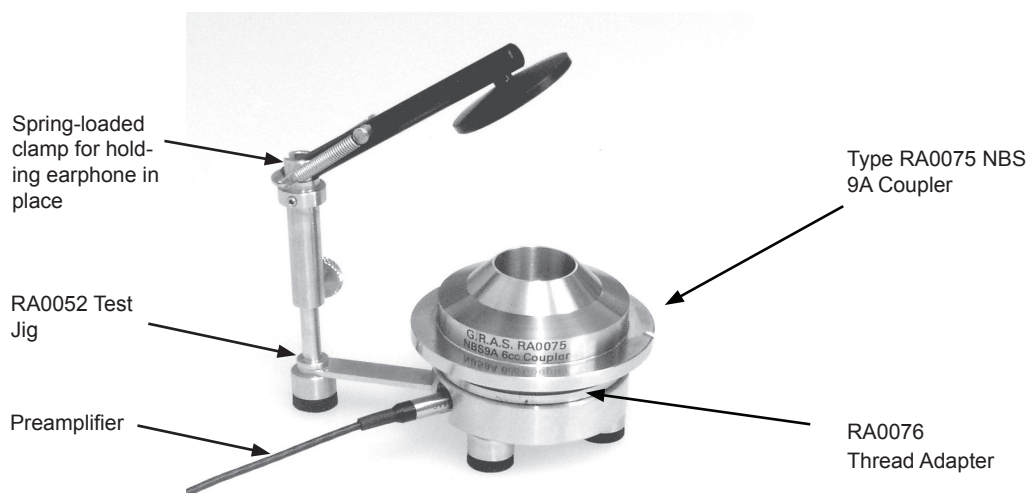
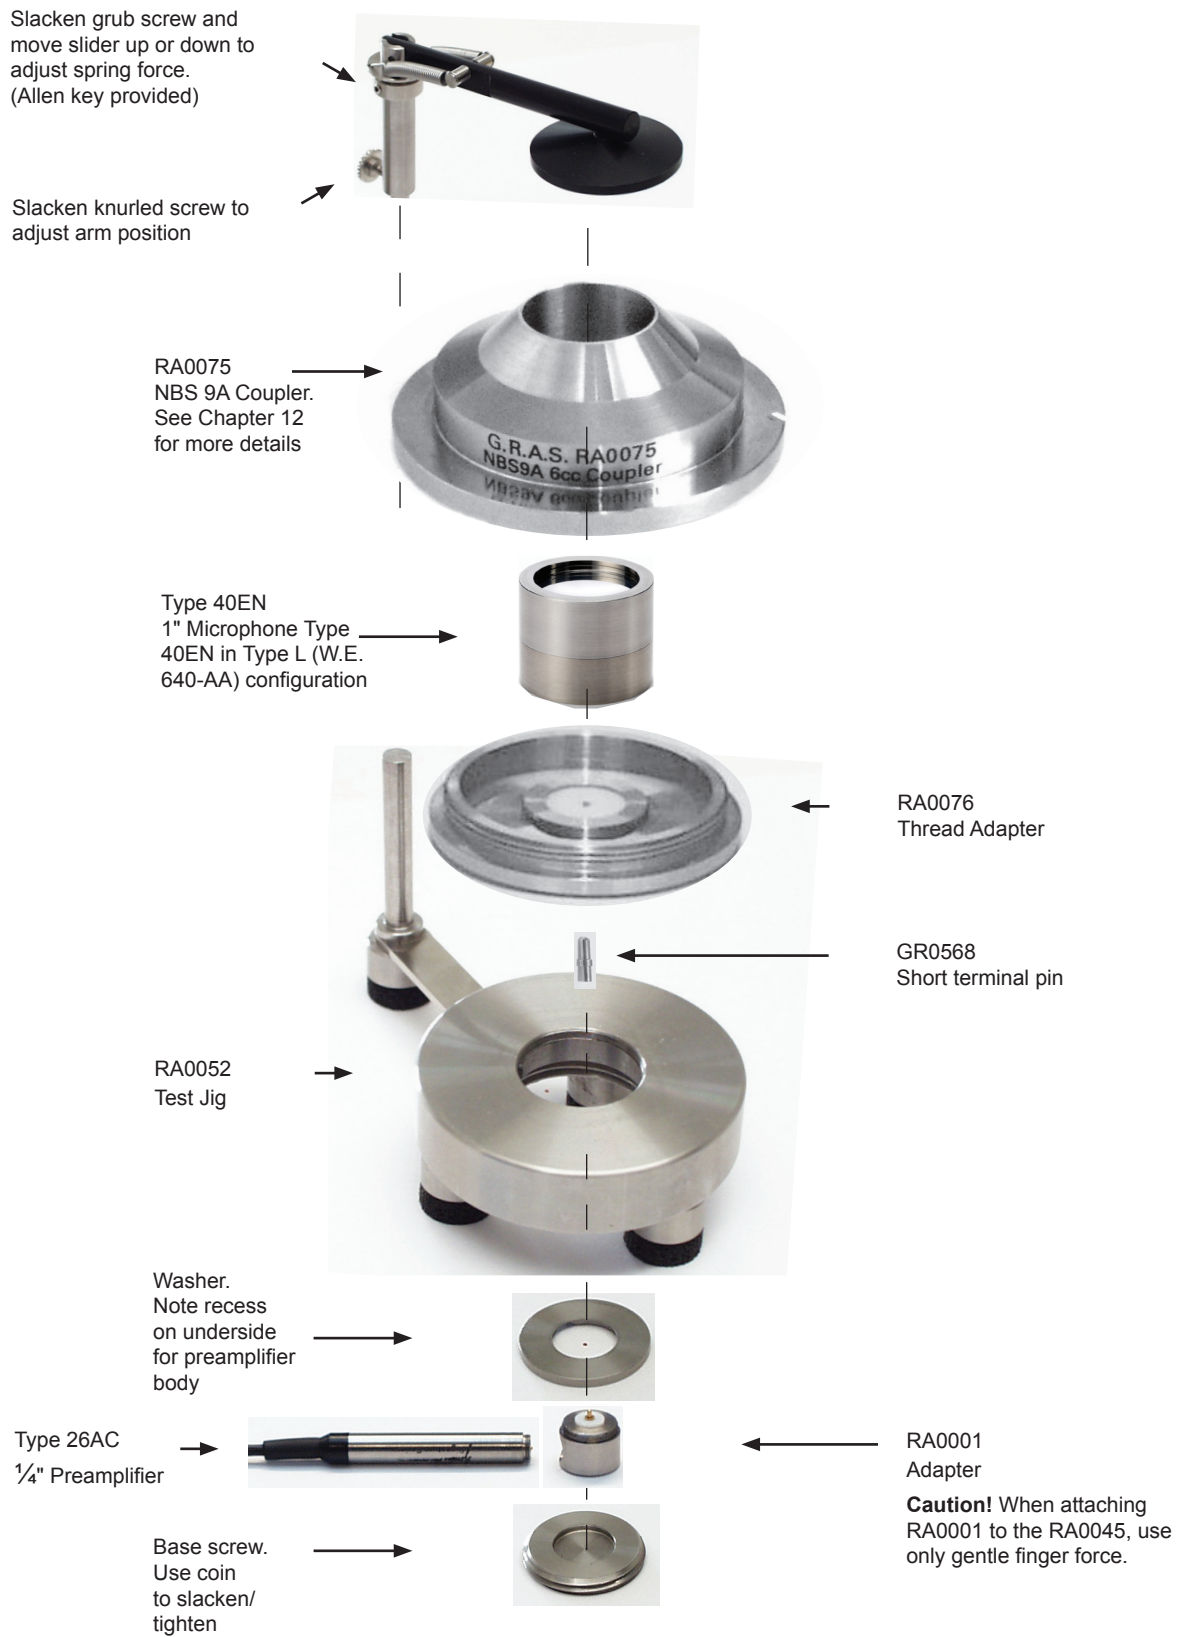

Fig. 6.1 Assembled Artificial Ear Type 43AF
Fig. 6.5 Exploded view of all the user-serviceable components of the Artificial Ear Type 43AF
When assembled as shown in Fig. 6.1, it is ready for testing earphones such as telephone handsets and headphones (see example in Fig. 6.2). An exploded view of its user-serviceable components is shown in Fig. 6.5.
With the Artificial Ear assembled as shown in Fig. 6.1 and everything switched on, proceed as follows:
- 1) Snap the spring-loaded clamp (see Fig. 6.1) to its upright position, or remove it.